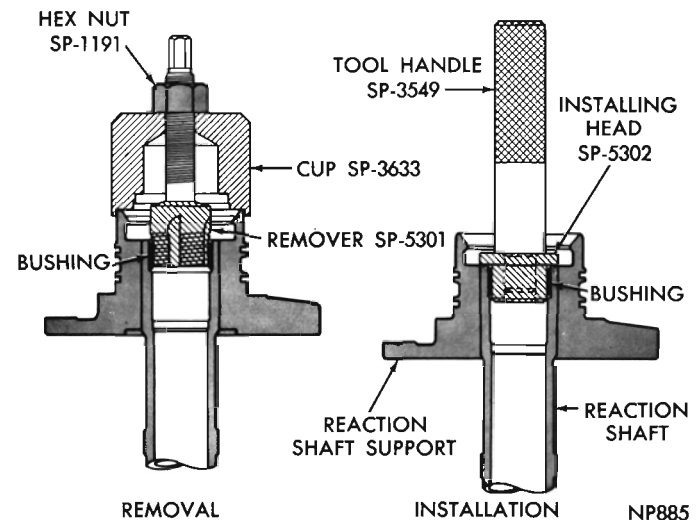

Fig. 66—Replacing Reaction Shaft Bushing (A-727)
(1) Assemble remover Tool SP-5301, cup Tool SP-3633, and hex nut Tool SP-1191 (Fig. 66).
(2) With cup held firmly against reaction shaft, thread remover into bushing as far as possible by hand.
(3) Use a wrench to screw remover into bushing 3 to 4 additional turns to firmly engage threads in the bushing.
(4) Turn hex nut down against the cup to pull bushing from reaction shaft. Thoroughly clean reaction shaft to remove chips made by removing threads.
(5) Lightly grip bushing in a vise or with pliers and back tool out of the bushing. Be careful not to damage threads on bushing remover.
(6) Slide a new bushing (chamfered end first) on installing head Tool SP-5302, and start them in the bore of reaction shaft (Fig. 66).
(7) Support reaction shaft upright on a clean smooth surface and install handle Tool SP-3549 in installing head. Drive bushing into shaft until tool bottoms.
(8) Thoroughly clean reaction shaft support assembly before installation.